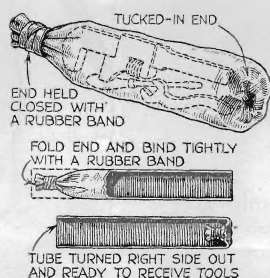

Fig. 3. A section of an old inner tube makes an excellent and serviceable holder for tools. It will not chew to pieces
**T**HE very serviceable tool bag shown in Fig. 3 is made from a piece of an old inner tube. Cut the tube about  $1\frac{1}{2}$  times the length of the longest tool that you want to put in it and then turn it inside out as shown. Fold neatly and compactly at one end, and bind as tightly as possible with a heavy rubber band also cut from the old tube. Turn right side out again, and, after inserting tools, close the end with another rubber band.